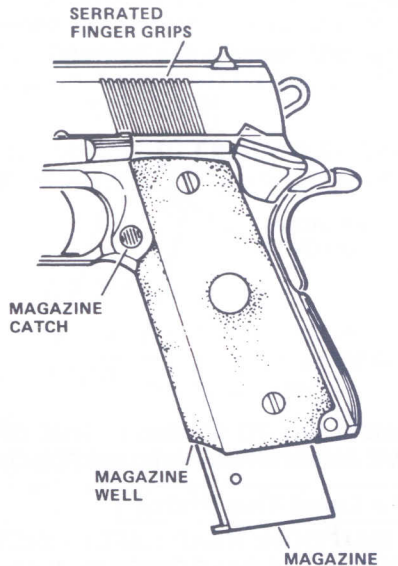

FIGURE 4—MAGAZINE PARTIALLY INSERTED
2. Remove magazine from pistol. Place your hand under magazine to prevent it from falling. Press magazine catch (located on left of pistol behind trigger guard) to drop the magazine out of the magazine well. (See Figure 4).